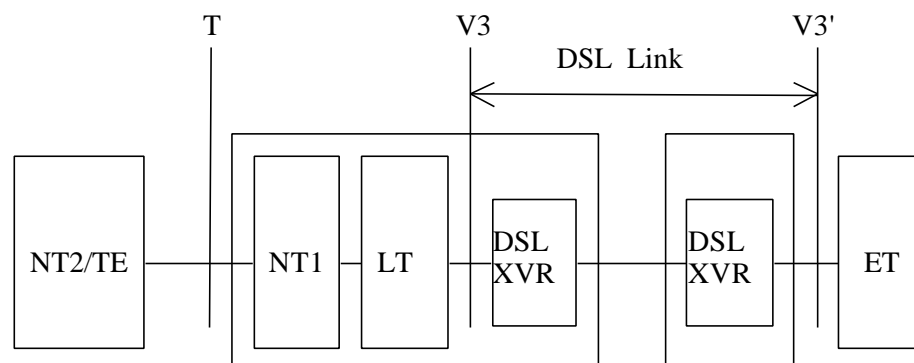

Figure 4-4: Reference Points of the PRA
- The slave modem at the customer premises is configured as NT1 & LT. Direct access to the exchange is established by a bit-transparent DSL-Link. All data, including time slot 0, from the exchange must be transmitted transparently (also time slot 0) to the PRA-NTU, therefore the DSL equipment providing the line termination is E1 working in transparent mode (see Figure 4-4).